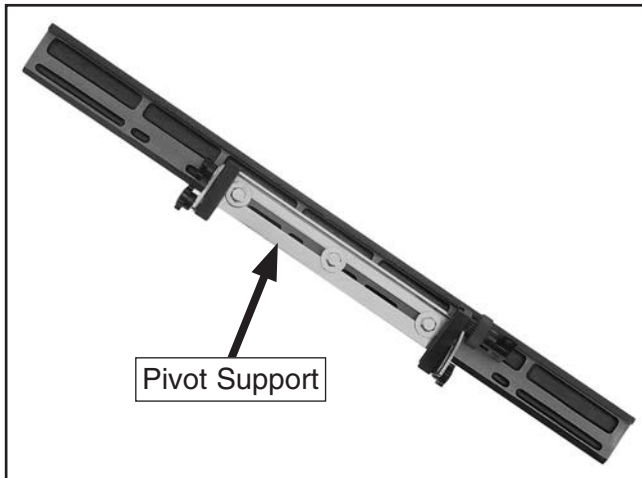

Figure 17. Pivot support attached to the slide table.
- Remove the pivot support from the machine, then secure it to the back of the slide table with the three hex nuts and flat washers removed in **Step 3**, as shown in **Figure 17**.